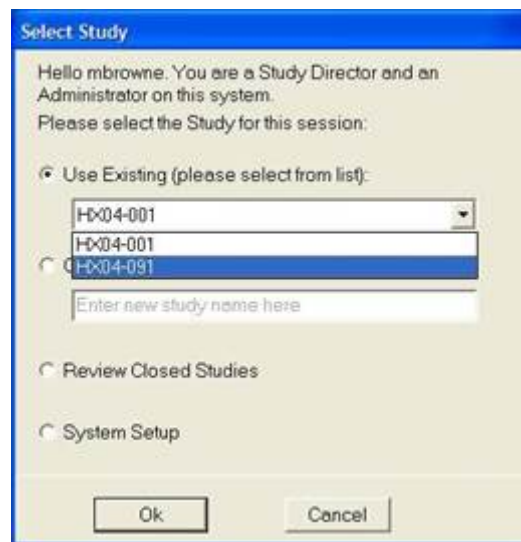

Figure 120. Existing Studies are selected from a list at start up.
- An Identifier or Name, which once created, appears in a list in the KGLP Startup dialog as shown in Figure 120. The Study list is filtered to make visible only those Studies for which the current user is authorized.